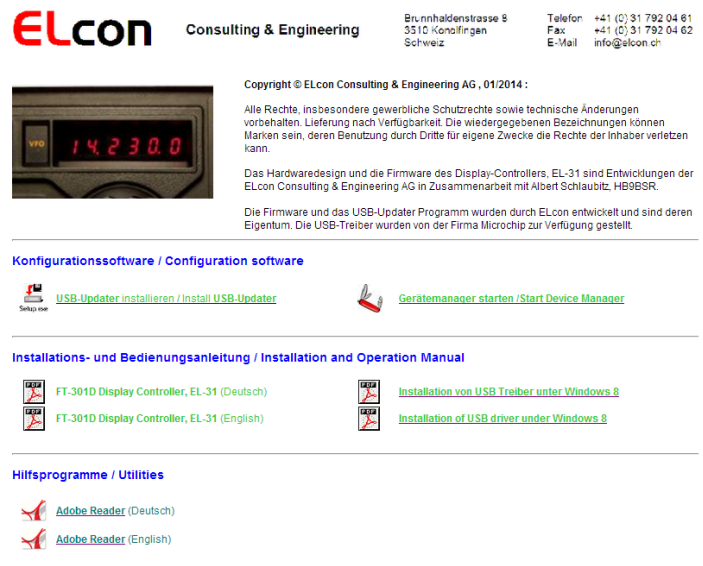

Figure 11
- ☐ From the CD or USB stick open the file "... \ USB-Loader Setup \ cd.htm" with an Internet browser → the window appears as shown in Figure 11.
USB-Updater installieren / install **USB-Updater** (see Figure 11).
For some operating systems, the installation of unsigned drivers will be blocked to protect the user. Especially on Windows 8 / 8.1 the drivers needs to be installed in a special manner. With the command in Command Prompt "Shutdown.exe / r / o" Windows 8 will launch directly to the boot menu option. Further details are on the website (see Figure 11).
The Device Manager can be started directly from the Web page (see Figure 11).